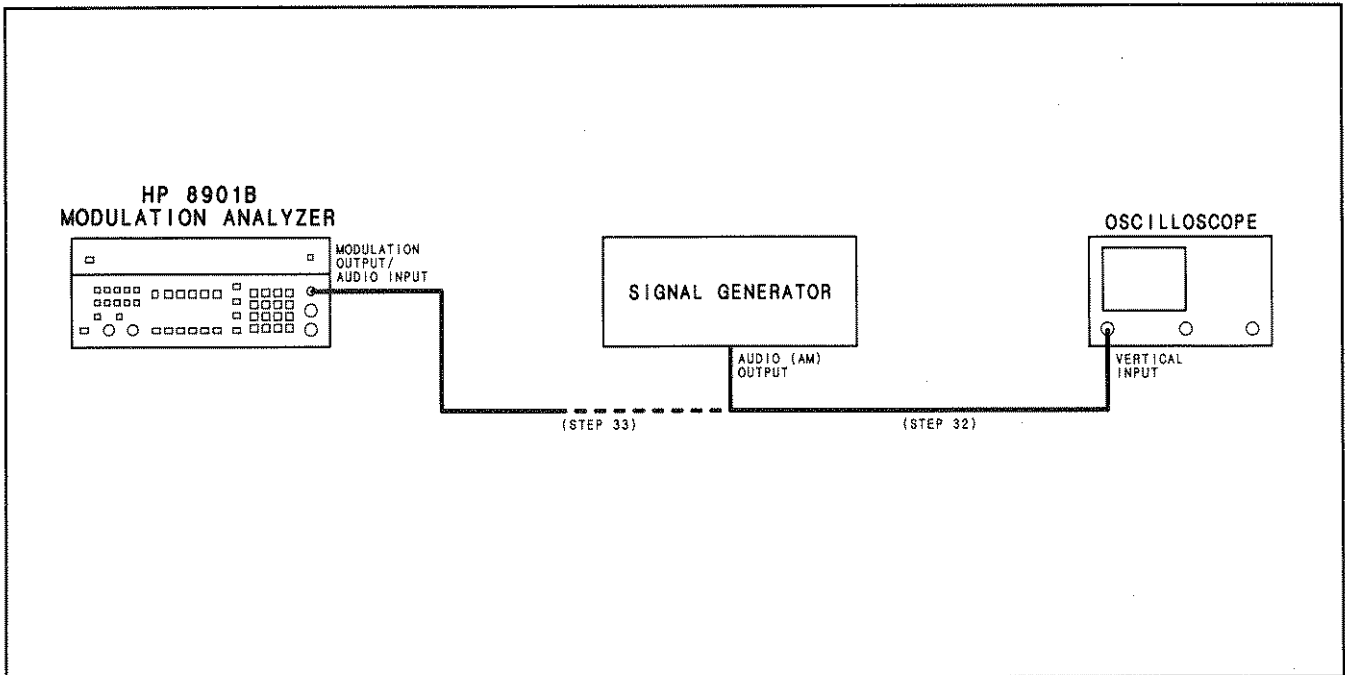

Figure 3-10. External Audio RMS Level Check Setup
32. Connect the audio (AM or trigger) output of the signal generator to the input of the oscilloscope. (See Figure 3-10.) Set the signal generator's audio output level for 3 Vpp as read on the oscilloscope.
33. Connect the audio output of the signal generator to the MODULATION OUTPUT/AUDIO INPUT of the Modulation Analyzer. (See step 33 of Figure 3-10.) Key in 30.0 and press the SPCL key. If the display is in dB V, press the LOG/LIN key to display V. The Modulation Analyzer's displayed level should be between 0.95 and 1.17V.